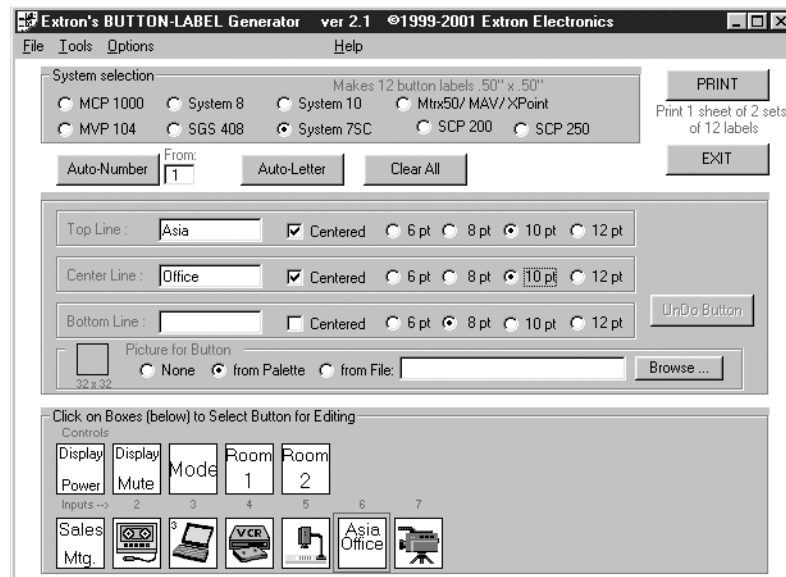

Figure 5-3 — Extron's Button-Label Generator window
1. To run the Button-Label Generator program, double-click on the Button-Label Generator icon (shown at right) in the Extron Electronics group or folder, and click OK when prompted. The Extron's Button-Label Generator window appears (figure 5-3).